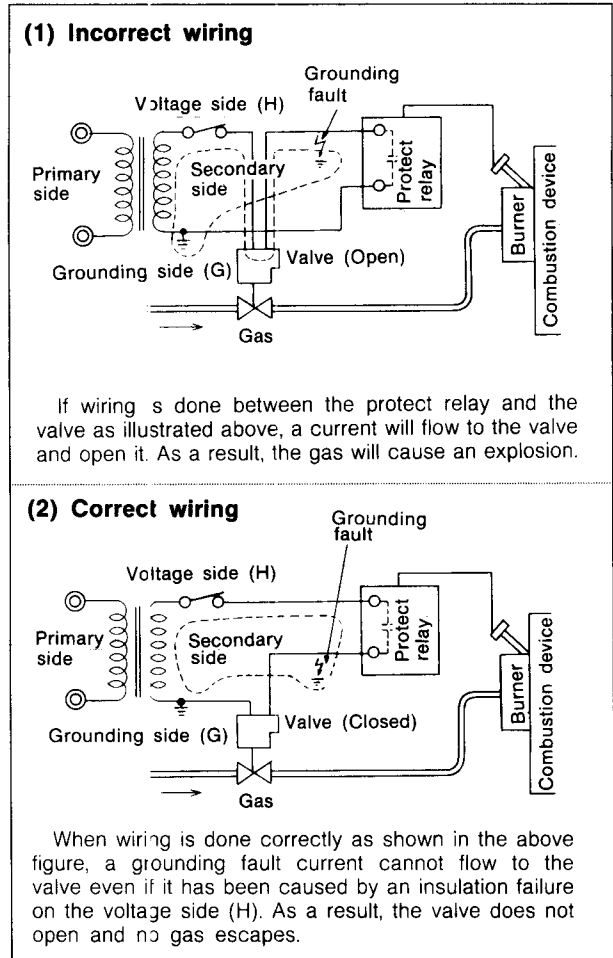

Fig. 4 Wiring of Power Supply and Valve
- If the voltage (H) and grounding lines (G) are separately identified, connect (H) to terminal  $L_1$ , and (G) to terminal  $L_2$ , and connect the valve and load to (G) as illustrated in Fig. 4, 5, and 6.